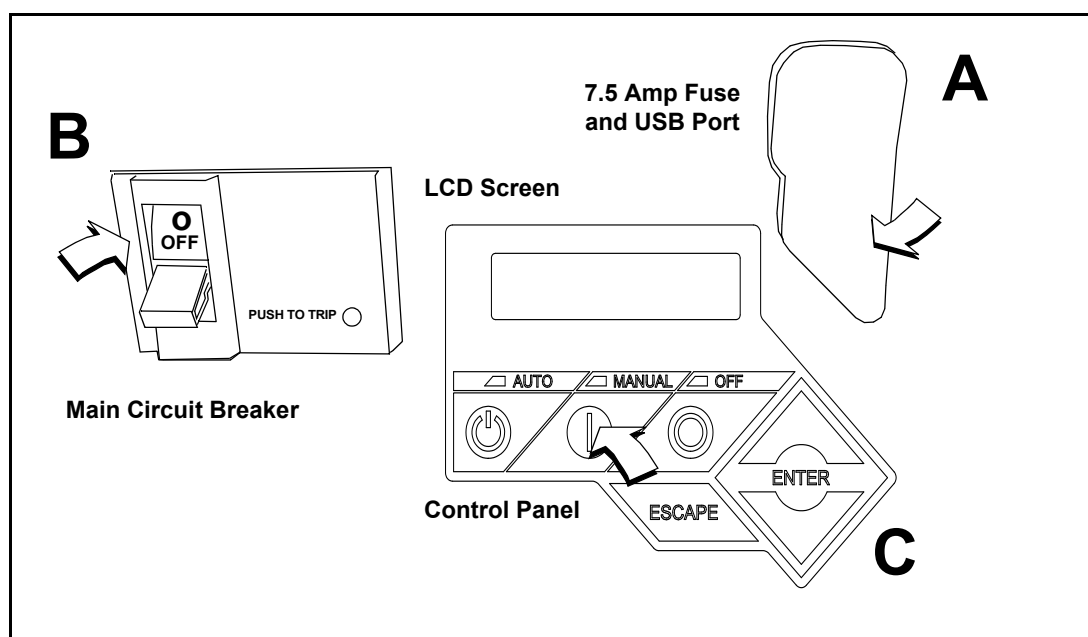

Figure 3-5. Generator Control Panel
1. Pull up rubber flap covering fuse holder and verify installation of 7.5 amp fuse. See A of Figure 3-5.
2. Move the Main Circuit Breaker switch down to the OFF (Open) position. See B of Figure 3-5.
3. Press MANUAL on the control panel to start the engine. A blue LED illuminates to confirm that the system is in the MANUAL mode. See C of Figure 3-5.